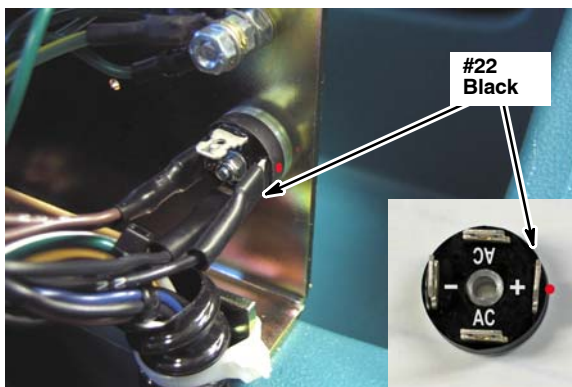

Fig. 9
10. Connect wire #22 black (formerly on brush relay) to the rectifier (+) side where wire #16 was removed earlier (Fig. 9).